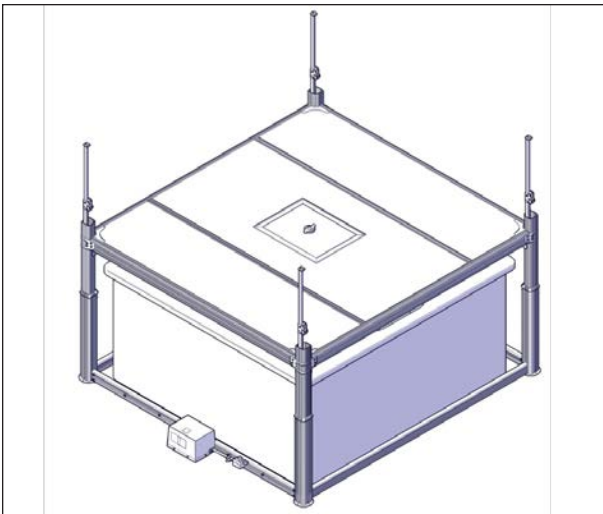

FIGURE 77: JACKS RAISING
6. Raise the jacks until they reach the maximum height, see Figure 77.